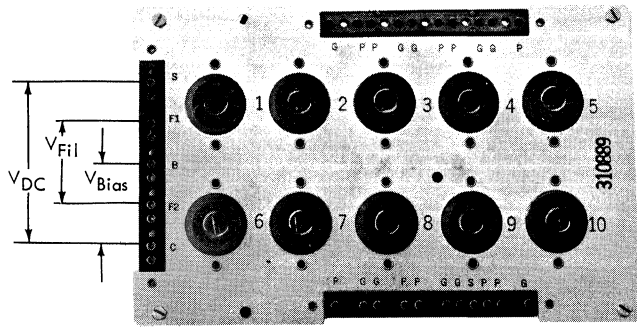

Figure 10. Tube Panel
1. Adjust transformer taps for as near as possible to 25VAC between FIL 1 and FIL 2 (Figure 10).